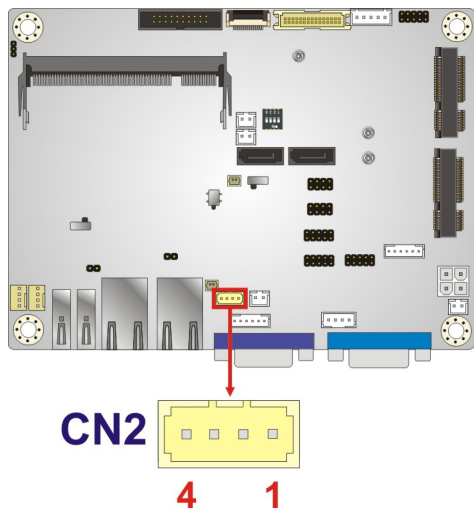

Figure 3-22: SMBus Connectors Location
- CN Location: See **Figure 3-22**